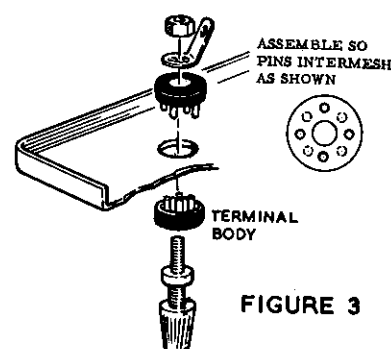

FIGURE 3
Refer to Pictorial 1 and Figure 3 for the following two steps:
- () Mount RED terminals at RR and XX as shown in Figure 3. Under each nut use a 4BA shakeproof solder tag and before tightening the nut, position the solder tags as shown in Pictorial 1 and ensure that the cross-drilled holes in the terminal bodies are horizontal.
- () Mount BLACK terminals at RRG, SS, TT and VV as shown in Figure 3. Under each nut use a 4BA shakeproof solder tag and, before tightening the nut, position the solder tags as shown in Pictorial 1 and ensure that the cross-drilled holes in the terminal bodies are horizontal.